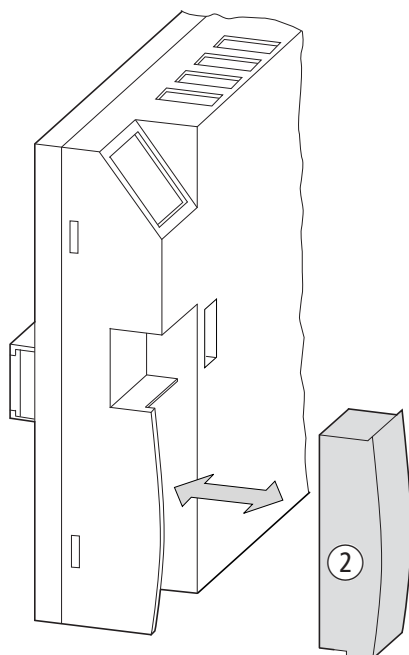

Figure 77: Connecting and removing the memory card b
- ▶ Remove the cover from the interface and connect the connector memory card ➔ Figure 77, page 94.